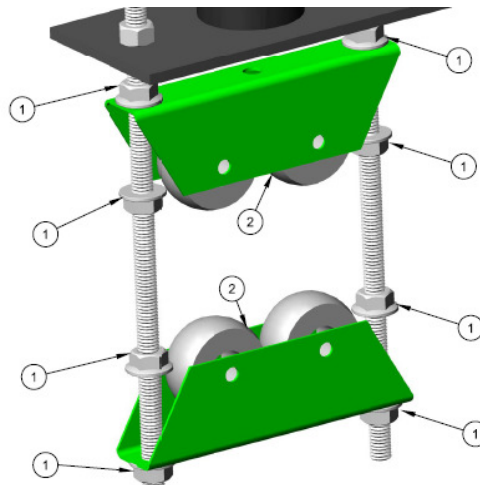

Figure 3. Carrier installation (double carrier shown).
5. Referring to figure 3, a 1/2"-13 Whiz lock nut (item 1) should be threaded onto each threaded rod and spun towards the carrier mount a sufficient
Note that a single carrier will be installed the same as the lower carrier (item 2) shown in figure 3. Also, note that in either case enough space must be left above the lower carrier to allow a 2-3/8" diameter pipe to slide in.